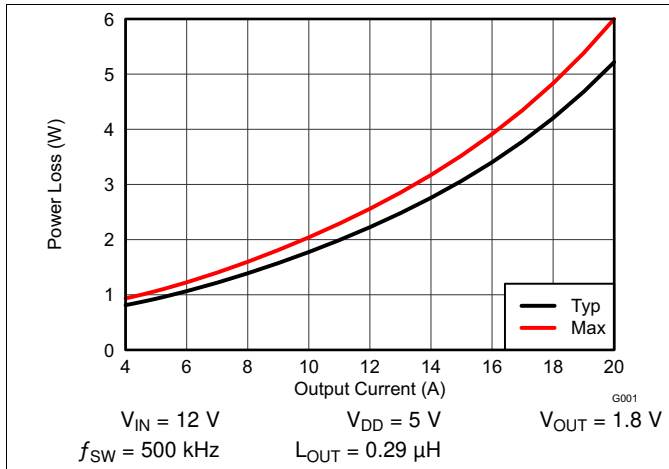
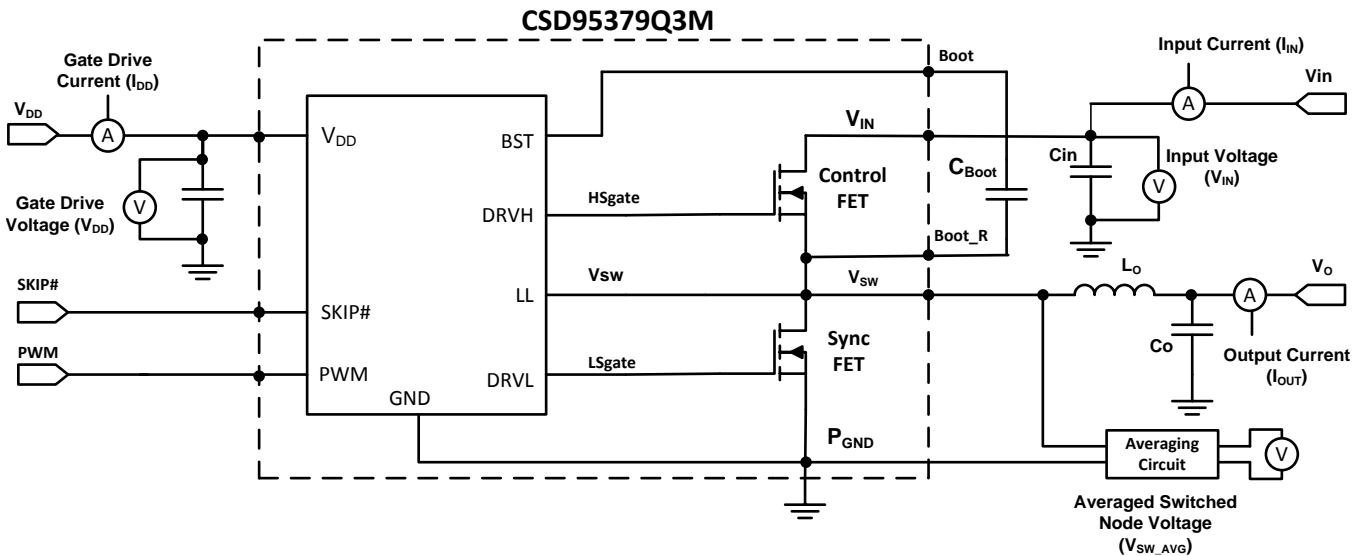

Figure 1. Power Loss vs Output Current
Figure 12. Power Loss Test Circuit
MOSFET-centric parameters such as  $R_{DS(ON)}$  and  $Q_{gd}$  are primarily needed by engineers to estimate the loss generated by the devices. In an effort to simplify the design process for engineers, TI has provided measured power loss performance curves. Figure 1 plots the power loss of the CSD95379Q3M as a function of load current. This curve is measured by configuring and running the CSD95379Q3M as it would be in the final application (see Figure 12). The measured power loss is the CSD95379Q3M device power loss which consists of both input conversion loss and gate drive loss. Equation 1 is used to generate the power loss curve.
The power loss curve in Figure 1 is measured at the maximum recommended junction temperature of  $T_J = 125^\circ\text{C}$  under isothermal test conditions.
- Typical power loss at 10 A = 1.8 W (Figure 1)